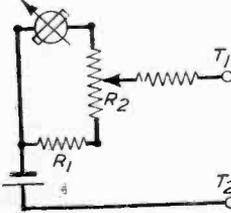

Fig. 5—An improved circuit.
**N**EXT to the measurement of voltage comes that of resistance, there are many ways of measuring this, and by far the most convenient is the ohm-meter. This instrument consists essentially of a standard resistance, a current meter and a battery. The simplest circuit is shown in Fig. 4. In this, for the scale to be calibrated it is essential that the battery voltage is not altered. Alternatively, a set of calibration charts can be made for different battery voltages. This system is used by the Post Office Engineering Dept. for making simple measurements on lines. An improved circuit is shown in Fig. 5 and this can be simply constructed using an ex-W.D. 0-1 milliammeter. The resistors should be of as high quality as possible, and for rough checking 10 per cent. tolerance will do, but remember that the accuracy will always be lower than the resistors used as standards. In choosing resistors it must be remembered that the meter has resistance! A simple point which is often forgotten. If the meter is, say, 100 ohms, then the 1,500 ohm resistor will have to be reduced to 1,400. With the high range the resistance of the meter can be ignored as it will only make 1 part in 150 difference. The firm of Dubilier will supply resistors of very close tolerance, even to a tolerance of 0.1 per cent., but they are expensive in such a close tolerance range. The writer normally uses their 1 per cent. range for this type of job. Eric, Ltd., also produce high tolerance resistors, but only to an accuracy of 2 per cent.